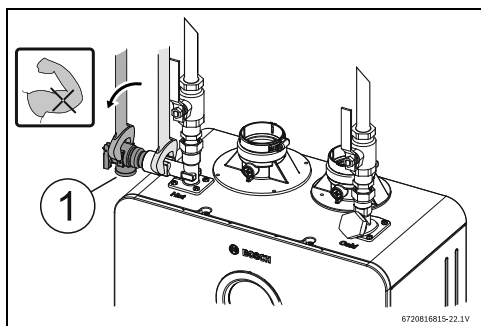

Fig. 27 Plumbing Connections (with shutoff valves) and Pressure Relief Valve
- Use the integrated port to install the PRV, see Fig. 27 [1].
- Tighten the PRV with the support of a wrench, see Fig. 27.
- ▶ Full port shutoff valves should be installed on both the cold water supply and hot water outlet lines to facilitate servicing the heater (see fig. 27).